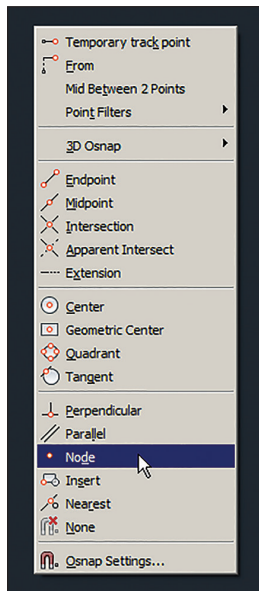
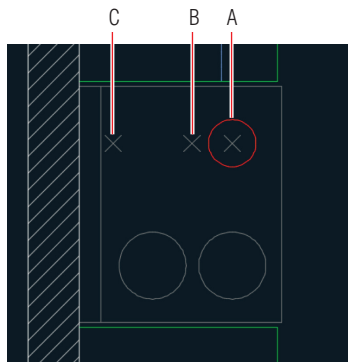

FIGURE 2.21 Object Snap context menu
FIGURE 2.22 Drawing a circle by locating its center using node snap
- Select Node from the context menu (Figure 2.21), and then click point A (shown in Figure 2.22). The prompt in the Command window reads as follows:
Type 2P to indicate the two-point option and press Enter. Hold down Shift and right-click to open the Object Snap context menu. Select Node and then click point B (shown in Figure 2.22).
- Hold Shift again, right-click, and choose Node. Click point C (shown in Figure 2.22), and the CIRCLE command is completed.
9. Hold Shift, right-click again, and type G. Notice that this letter is underlined in the word *Tangent* in the context menu (refer to Figure 2.21). Click the circle on the bottom left.